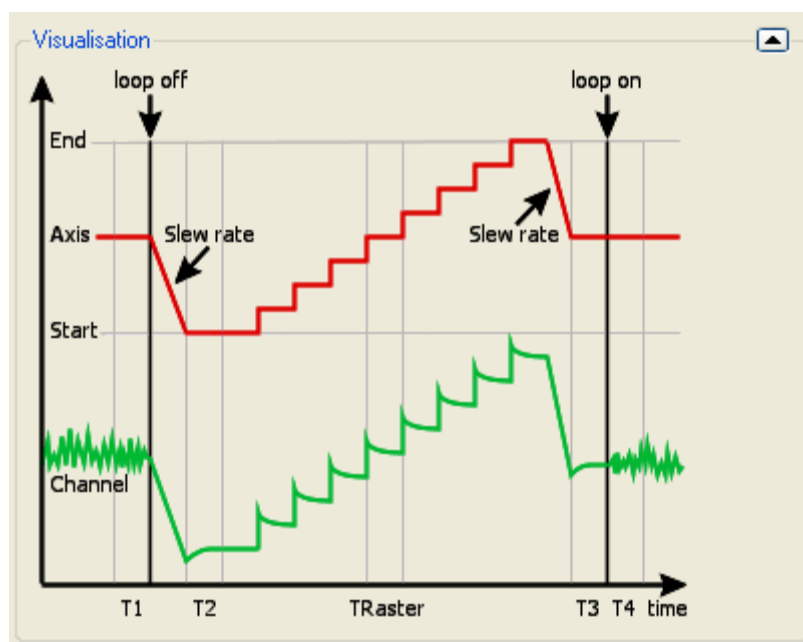

Figure 34. Spectroscopy, delay and acquisition times. schematic diagram.
These delays are necessary to achieve stable conditions at the beginning and end of every spectroscopic curve, see figure 34.
- The tip moves to the specified sample location for the first I(V) curve. It uses the parameters set for lateral movements in the Scanner window and has the feedback loop on during this process.
- Having reached the location the tip waits for a specified time **T1** with the feedback loop still on, see figure 34 on page 41. This waiting time takes account of possible piezo creep.
The feedback loop will automatically be switched off and on as indicated in figure 34 on page 41.
The button **Extra Settings** gives access to a number of additional parameters for the spectroscopy process. All parameters are indicated in the graphical representation, see also figure 34 on page 41.